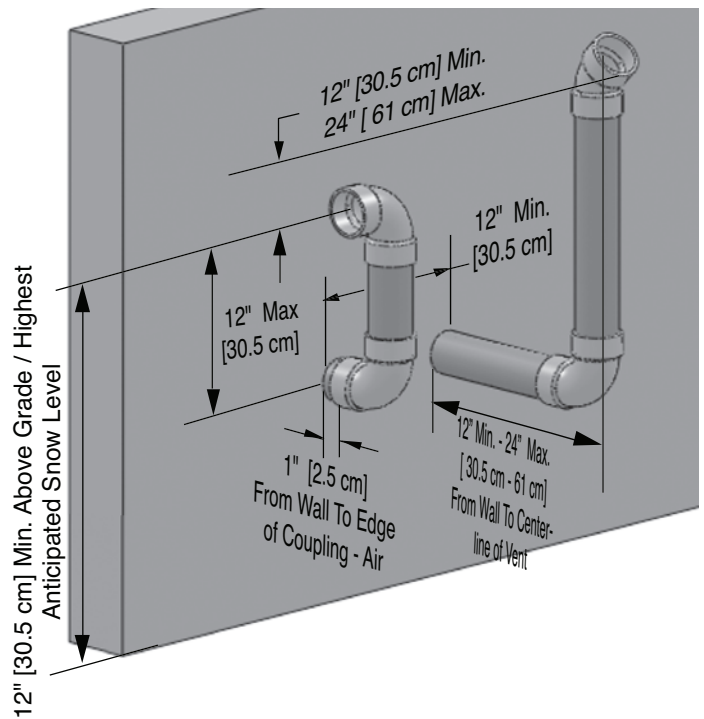

Fig. 9: Direct Vent - Sidewall Snorkel Termination of Vent and Combustion Air Piping with 45° Vent Termination
- Using a 45° elbow as shown in Figs. 9 or 10 on page 13.
- Using a 45° elbow as shown in Figs. 9 and 10 on page 13.